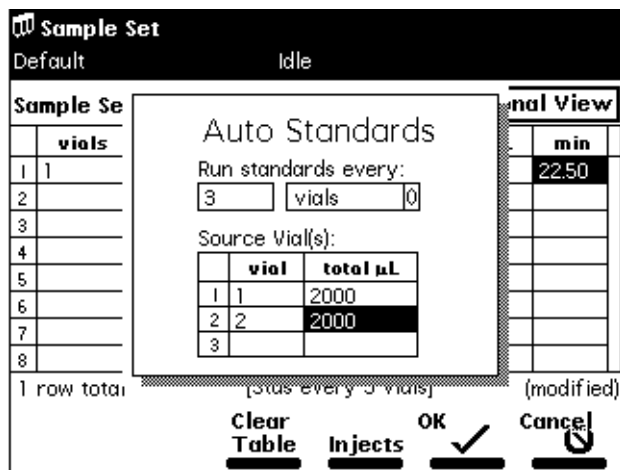

Figure 6-17 Auto Standards Dialog Box
1. Select **AutoStdS** from the drop-down list of functions, then press the **Row Details** screen key to display the Auto Standards dialog box (Figure 6-17).